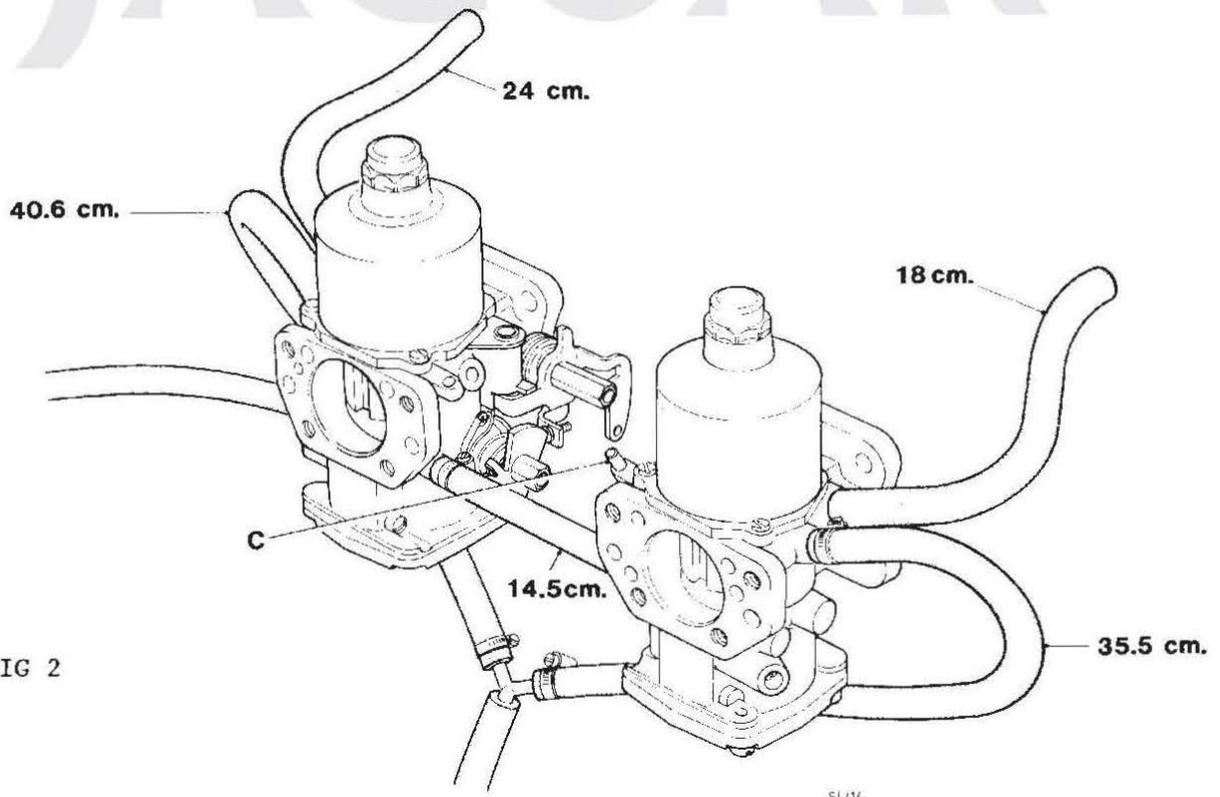

FIG 2
2. Cut the hoses to length, fit and secure to the carburettor using the 'Y' piece from the displaced assembly (Fig. 2), ensuring that they do not and can not foul the operating cams.
3. Locate the choke cable through the ferrule in the front carburettor (C Fig 2) and through the solderless nipple (which must be located in the lower hole in the choke operating cam). Ensure that the choke cable is in the fully closed position before tightening the securing screw.